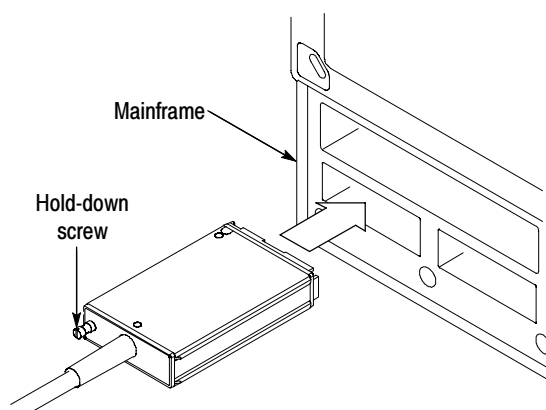

Figure 3: Extender cable connection to the mainframe
2. Install the TekConnect Probe Interface Module Extender Cable connector into any of the small sampling module compartments on the front panel of the mainframe. See Figure 3.